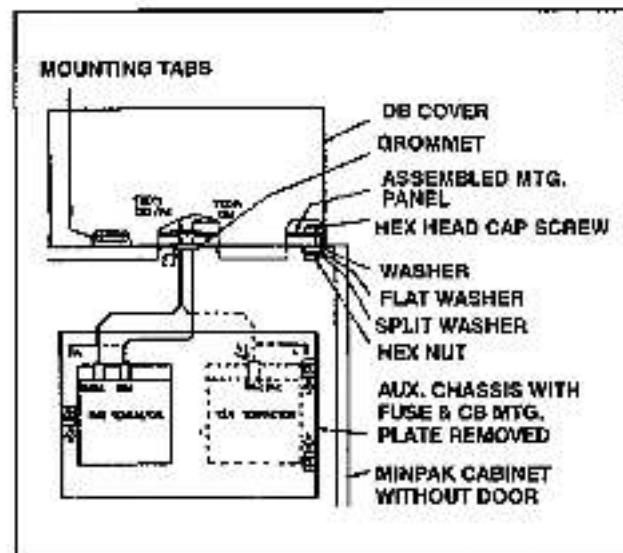

Figure 4 – Front View of Three Phase MinPak Plus Cabinet
3. Secure assembled mounting panel to cabinet using four hex head cap screws, washers, flatwashers, split washers and hex nut mounting hardware (Figure 8). (NOTE: Hardware must be used as shown in Figure 4 to insure NEMA 12 rating.)
7. Connect lead DB1 to forward contactor and lead DB2/A2 to other side of forward contactor. For reversing applications connect DB2/A2 to reversing contactor. (Refer to Figures 4 and 5).